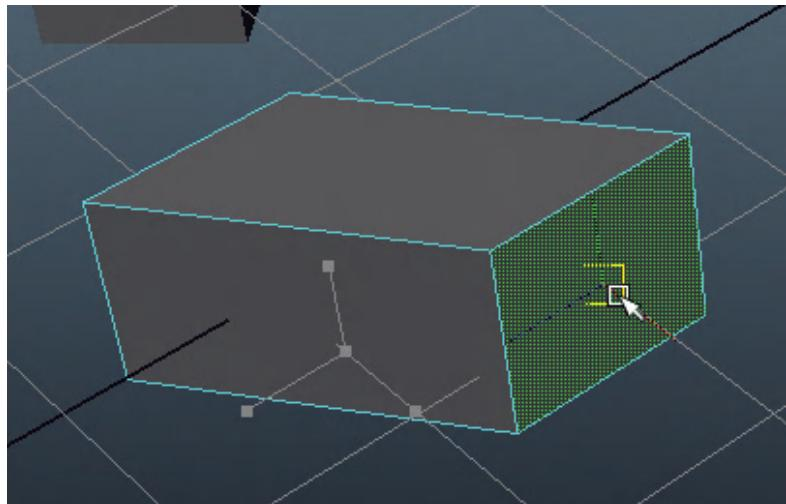

FIG 2.17 Once a face is selected, it can be moved, scaled, or rotated.
Step 20: Swap to the Move Tool, select any of the faces of the cube and use the Manipulator Handles to move that face (Fig. 2.17).